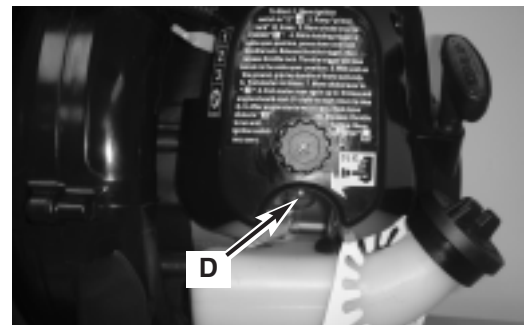

Fig. 10
1. Pump primer bulb 10 X by pressing up on the bulb (D). (Figure 10)